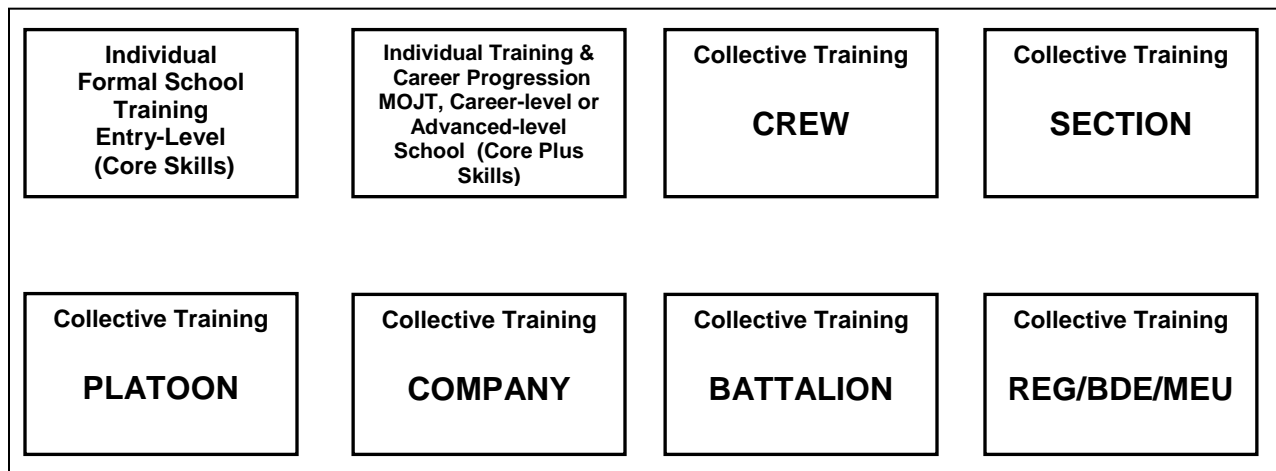

Figure 1-1: T&R Event Levels
c. Third 4 characters indicate the unit size and supported unit, if applicable (1000 through 9000), and sequence. Figure 1-1 shows the relationship of unit size to event code. NOTE: The titles for the various echelons are for example only, and are not exclusive. For example: 4000-level events are appropriate for Section-level events as noted, but also for Squad-level events.
(1) Grouping. Categorizing events with the use of a recognizable code makes the type of skill or capability being referenced fairly obvious. Examples include: PAT for patrolling events, DEF for events in the defense, FSPT for events related to fire support, etc. There is no special significance to the functional areas, but they should be intuitive to make it as easy as possible for the T&R user to find events. When organizing the T&R Manual, functional areas are alphabetized then the associated events are numbered. The events will be numbered based upon the introduction of each new functional area, allowing up to "999" events. For example: if there are seven Administrative events 4431 occupational field, then the events should start 4431-ADMN-1001 and run through 1007. Next, the Bulk Fuel events, BUFL should start at 4431-BUFL-1001.
(2) Sequencing. A numerical code is assigned to each individual (1000-2000-level) or collective (3000-9000-level) training event. The first number identifies the size of the unit performing the event, as depicted in figure 1-1. The second number is available for T&R Manuals with collective events that support those in other manuals to identify the echelon of unit being supported by a particular collective event. If a collective event is supported by other events or is performed in general support without regard to echelon, then a zero "0" will be utilized as the second number. For example: 0231-TGT-3801 would refer to an event conducted by a four Marine Targeting Cell supporting a Regiment or Group, 0231-TGT-3001 would represent an event the Targeting Cell does in support of any sized unit. The event would not be labeled 0231-TGT-8001 because that would imply that a regiment sized targeting unit was performing some task. This is not possible, since